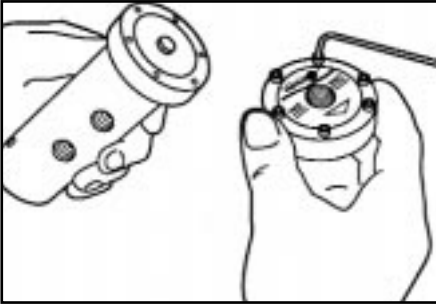

Figure 15
1. Use a 9/64" Allen wrench to remove the top cap screws. (Fig.15)
2. Separate the top cap and data plate from the upper body section. (Fig.15)